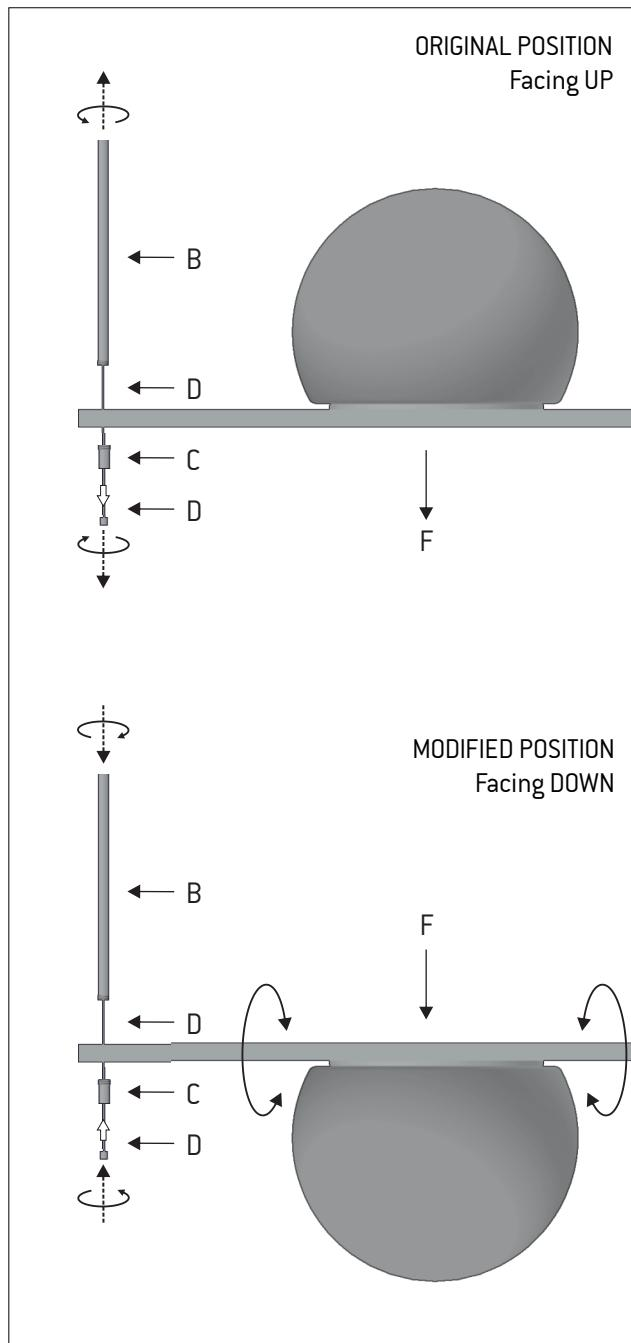

Figure 3
Unscrew the pieces (B) and (C) that make up the arm (A) to release the steel cable (D). Pull the steel cable from the bottom of the piece (C) until it is completely removed. Flip the lamp (F) to place the shades facing down. Screw back the pieces (B and C), the stem (B) should be on the opposite side of the shade. Insert the steel cable through the piece (C) until it appears at the end of the stem (B). Carry out the same action at both ends of the lamp. Figure 3.